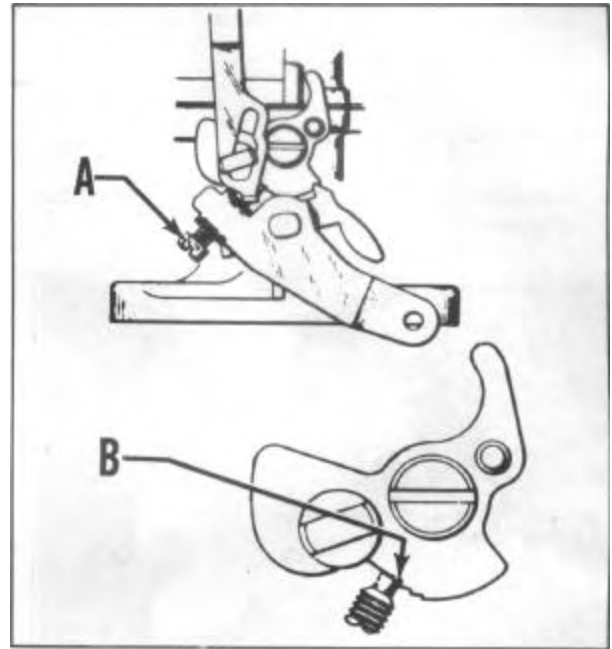

FIGURE 8
2. With fast idle cam in normal idle position, tighten throttle lever adjusting screw (A), Figure 8, until it just seats against the cam.
set screw (B), Figure 8.